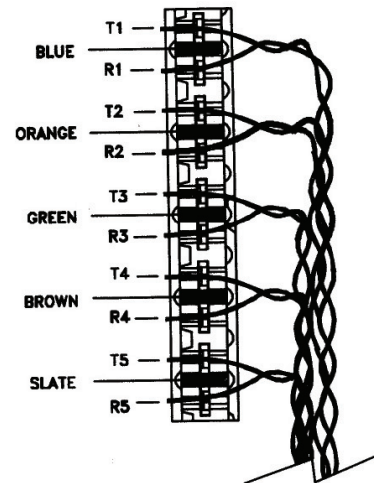

Figure 4
4. To terminate wires to the S110 connecting block, remove or strip back only the length of cable jacket required for termination and trimming. Seat the conductors in the connecting block following the color code shown in Figure 4 and described in Step 2. Care should be taken to maintain twists as close as possible, 13 mm (0.5") or less, to the point of termination.